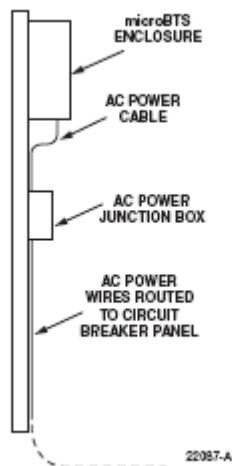

Figure 14. Typical AC Power Cable Routing
2. Route the power cable between the AC power port, located on the underside of the enclosure and the nearest AC power junction box as shown in Figure 14. It may be necessary to install a new junction box if an existing junction box is not available.